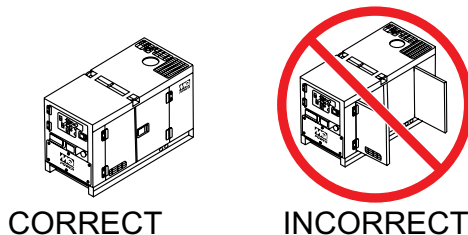

Figure 40. Engine Enclosure Doors
5. Close all engine enclosure doors (Figure 40).